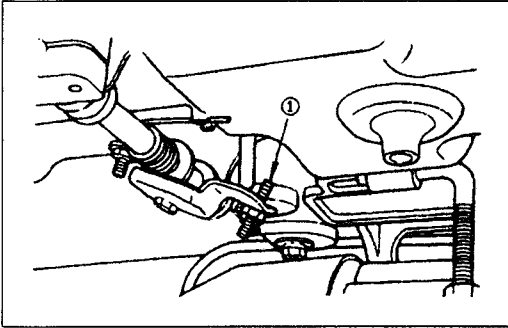

Fig.26
- 2) Insert support ① in the tapped hole in the arm.
18.ADJUSTING THE HEIGHT OF THE KNEE LIFTER (Fig.26, Fig.27)